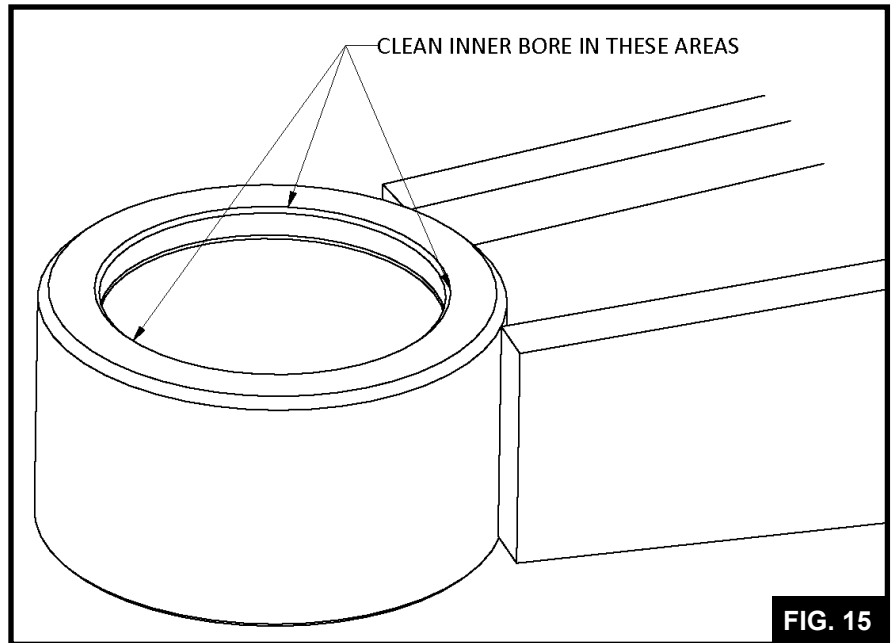

FIG. 15
8.4 Clean the inner bore of the metal sleeve on the walking beam center to remove any metal build up resulting from the bushing removal (**See FIG. 15**).